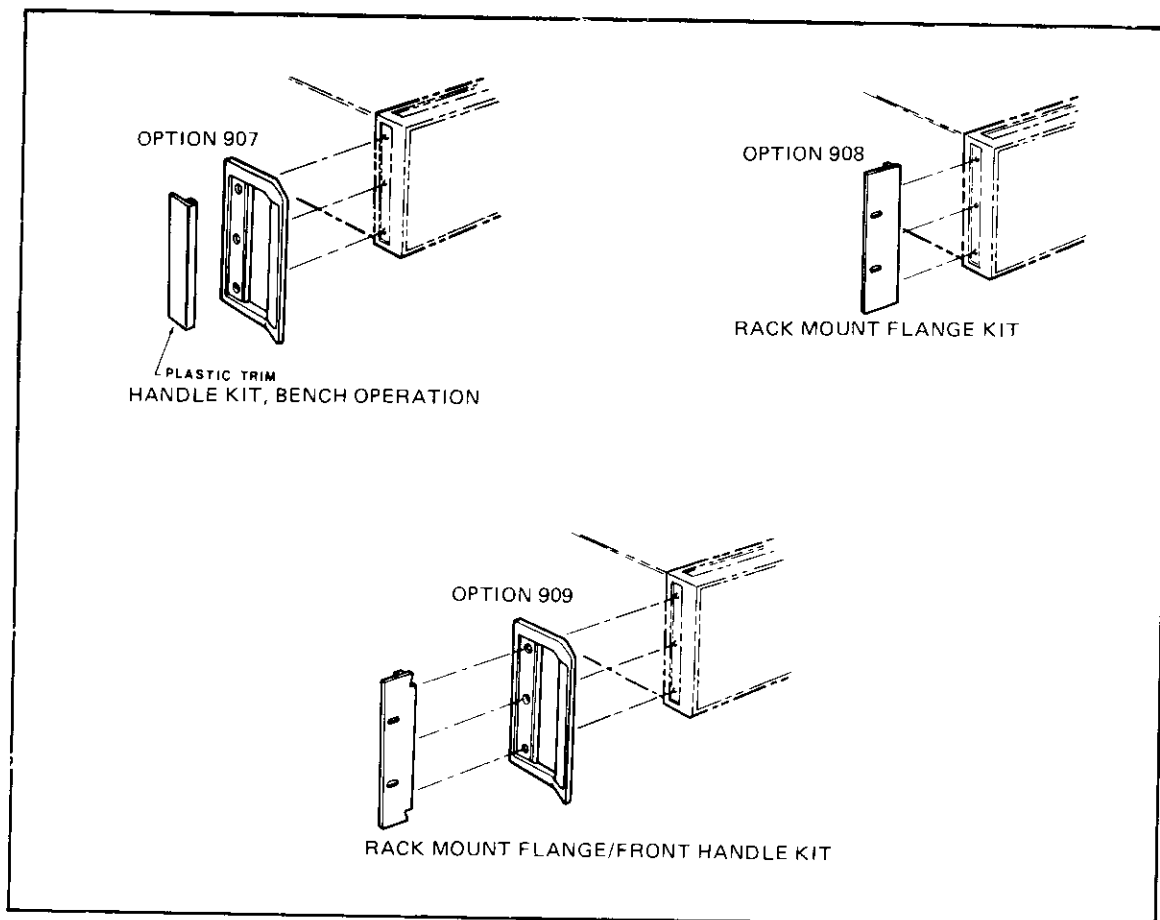

Figure 2-3. Rack Mount and Handle Kits.
2-27. The instrument has plastic feet attached to the bottom panel. The front feet contain foldaway tilt stands for convenience in bench operation. The tilt stand raises the front of the instrument for easier viewing of the control panel. The plastic feet are shaped to make fullwidth modular instruments self-align when they are stacked. A front handle kit, -hp-Part No. 5061-0089 (Option 907), can be installed for ease of handling the instrument on the bench (see Figure 2-3). The kit is shipped with the instrument if Option 907 is ordered. Otherwise, the front handle kit is available separately by its -hp- part number.
The Rack Mount Flange Kit (item a) will not provide the space requirement for rack mounting when used with the bench handle assembly (-hp- Part No. 5060-9899, Option 907). To rack mount with handles, the combination kit of item b (Option 909) must be used (see Figure 2-3). If either Option 908 or 909 is ordered, the corresponding kit is shipped with the instrument. Otherwise, both kits are available separately by their -hp- part numbers.
- ⑤ AC Line Input Connector. Accepts power cord supplied with the instrument.
- ⑥ HP-IB Connector. Used to interface the instrument with the Hewlett-Packard Interface Bus (HP-IB). This connector accepts metric threaded cable lock screws only. Metric lock screws are black anodized. (Figure 2-3)
- ⑦ HP-IB Address Selection Switches. Binary weighted switches that set the HP-IB (talk and listen) Address of the instrument. Preset to 14 at the factory. (Paragraph 2-15)
- ⑧ LON Switch. When set to LON, the instrument will Listen ONLY to messages from the HP-IB. The instrument's transmit capabilities are disabled.
- ⑨ Air Filter. Cleans air circulated through the instrument for cooling. Check and clean this filter periodically. (Paragraph 3-101)
- ⑩ REAR 21-60 MHz OUTPUT Annunciator. Lit when the 21-60 MHz OUTPUT is activated. Output is activated by programming frequencies ≥ 21 MHz and deactivated by programming frequencies < 20 MHz. (Paragraph 3-45)
- ⑪ SYNC Output. Supplies a TTL level square wave (into 50 ohms) to synchronize other instruments to the Main Signal Outputs. (Paragraph 3-20)
- ⑫ EXT REF Input. Allows the instrument's internal oscillator to phase-lock to an external frequency standard. (Paragraph 3-23)